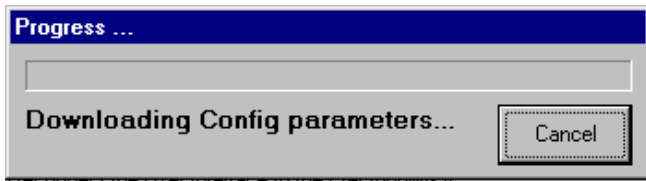

Fig. 13.16
6. A Progress meter appears and continues to display until the configuration parameters have finished downloading. See Fig. 13.16.